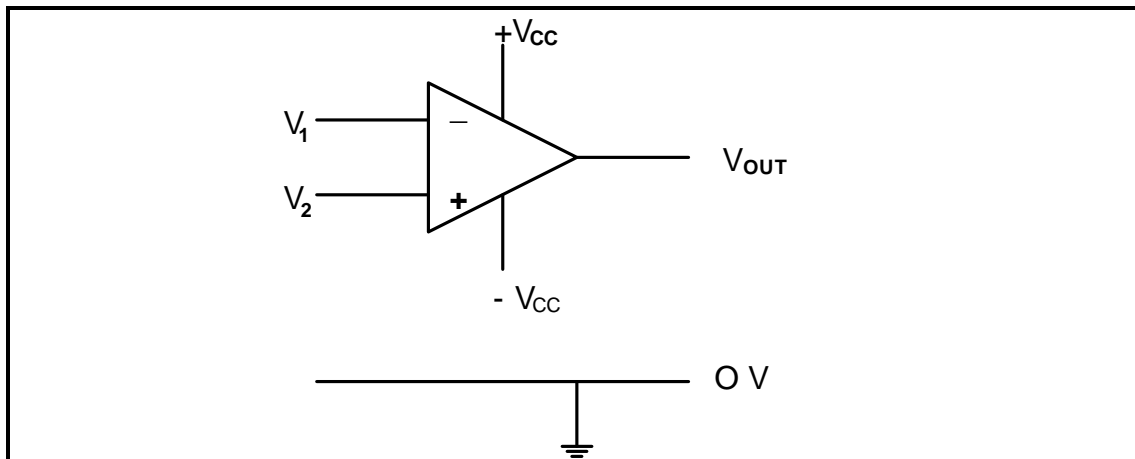

FIGURE 7.1: OP AMP
7.1 State the polarity of the output voltage of the operational amplifier (op amp) in FIGURE 7.1 below for the following inputs, if: